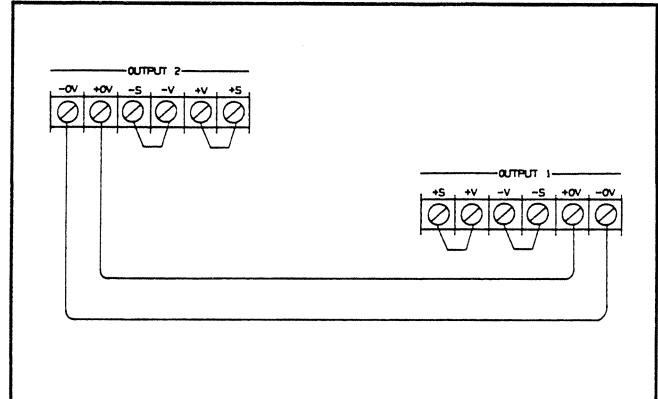

Figure 3-11. OV External Trip Test Connections
- a. Turn off the supply and connect the OV terminals of all outputs in parallel noting proper polarity. Figure 3-11 shows two outputs connected in parallel.